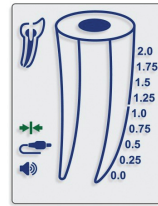

Fig. 3
5.3.2. "Connection" icon  should appear on the display, indicating proper connection (Fig. 3).